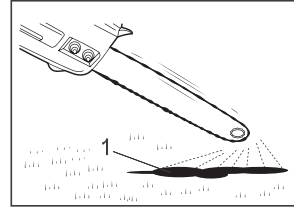

Figure 11
After starting the engine, run the chain at medium speed and see if chain oil scatters as shown (Figure 11). Tighten cap if necessary.
1. Chain oil (Figure 11).